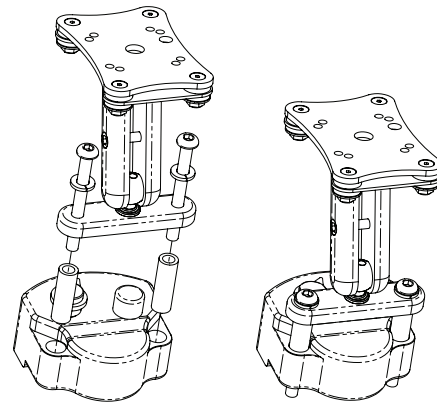

Figure 2
3. Using the *5/32" Hex Key*, fasten the *Base Plate* and *Stabilizer* to the bike with the *Spacers*, *M6 Lock Washers*, and *M6 Screws* as shown in Figure 2.